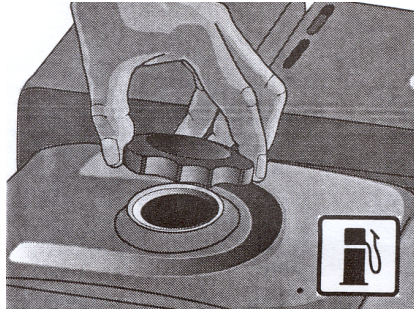

Fig. 4: Gas Tank
- f. Verify filter screen is in water inlet of pump with cone side facing out and that the filter is clean (Fig. 4). Clean by removing and flushing with water in both directions.